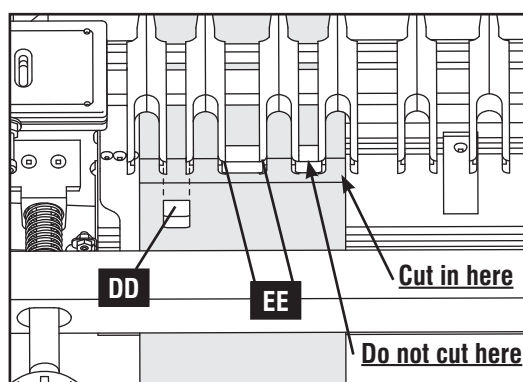

Fig. E12
NOTE: If desired, before making the cut, create 1/2" x 1/2" wood spacers (DD) Fig. E12 and insert them between adjacent fingers. (Place them between the square corners (EE), where you are not cutting.) This will keep the router from cutting into the tails and removing excess material.
8. Climb cut from right to left slowly along face of the board, then clean out the proper areas moving slowly from left to right. Be sure to cut only between the rounded edges, not between the square ones. (Fig. E12)